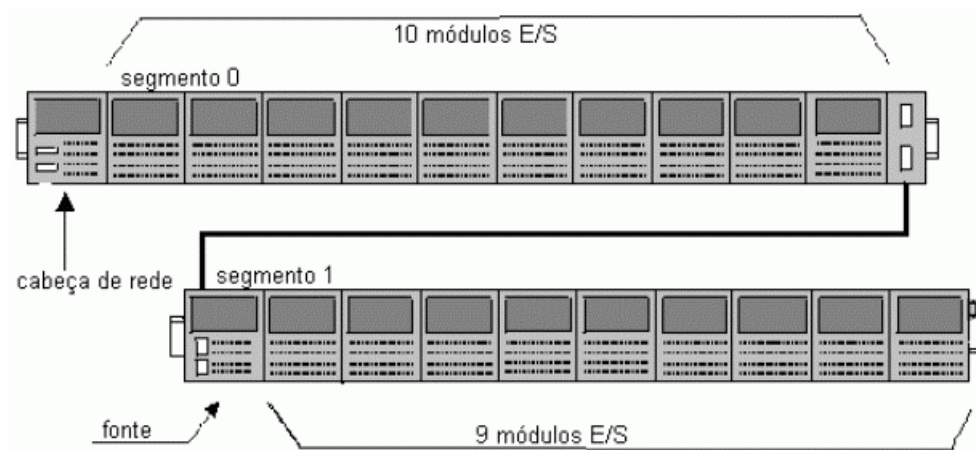

Figure 4-1 Example 1 with 2 segments
Please observe on the figure 4-1 that the first bus segment (0) is fed directly from the field network head. The next segment (1) is fed by a power supply located on the first bus position.
The figure 4-1 shows the segment 0 with a expander module at its end; a expander cable and a power supply at the beginning of the segment 1. The PO8085 power supply feeds the modules in its bus and also has a base connector compatible with the expander module.
It is important during the configuration phase to respect the correct bus segment assembly order. On the figure 4-1 and 4-2 the segment beginning is at the left side. That is where the bus head, power supply or expander module should be installed and connected to the previous segment. Such information will define what bus expander cable should be used.